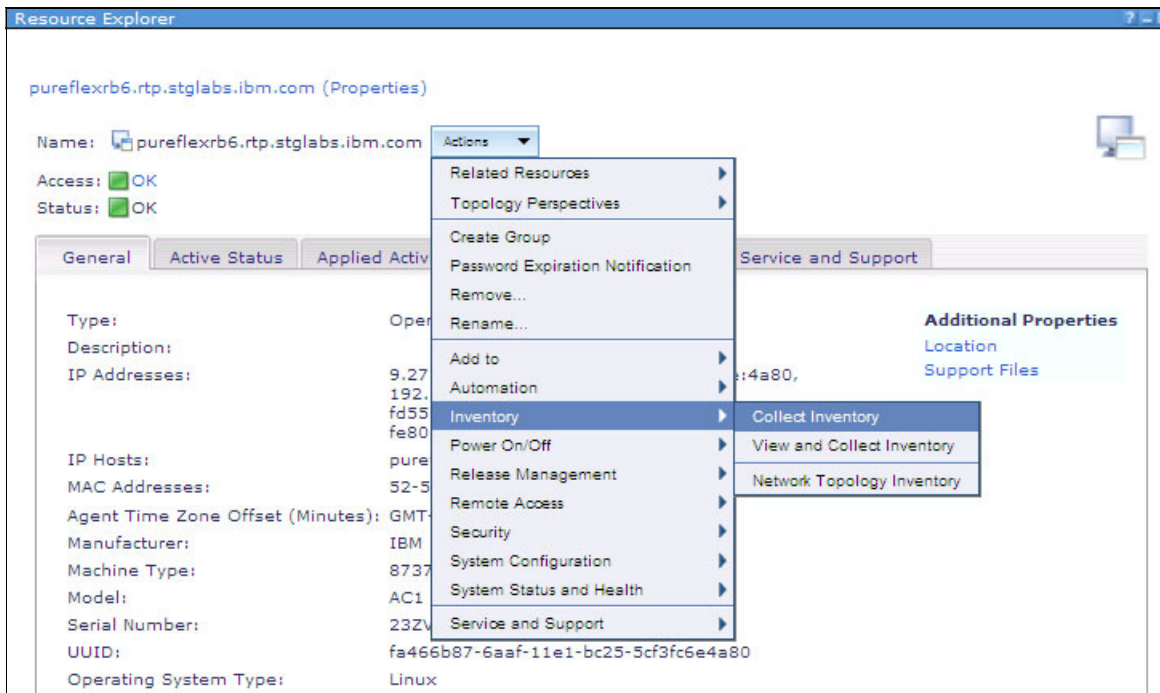

Figure 9-28 Collect Inventory window
- Select **Collect Inventory** on the system as shown in Figure 9-28, then click **OK** to run the job now.